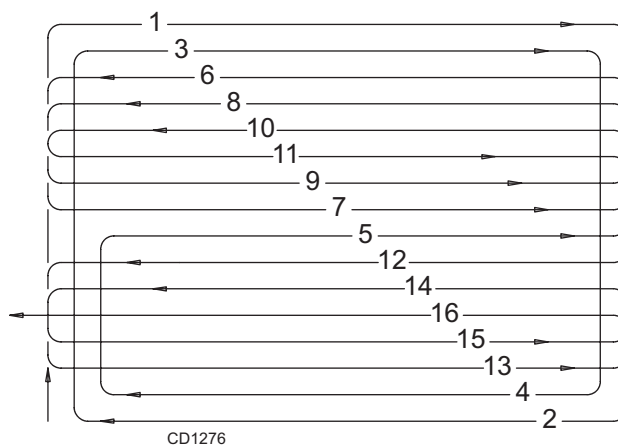

Figure 4 Mowing Pattern
7. For a professional touch in large open areas, try the mowing pattern in Figure 4. Make two or three passes clockwise to discharge clippings away from bordering objects. Then cut the lawn in half by mowing down the center. Turn counter-clockwise to the left at the end of the area over grass previously mowed.